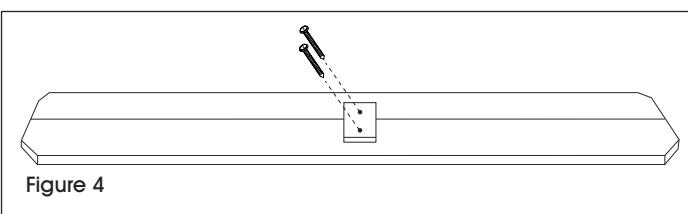

Figure 4
10. Pre-drill holes on seat block using 1/8" drill bit. Attach a seat block to the center of two seat planks. Attach using two 2½" wood screws on the block. Repeat for the second seat plank. (See Figure 4)